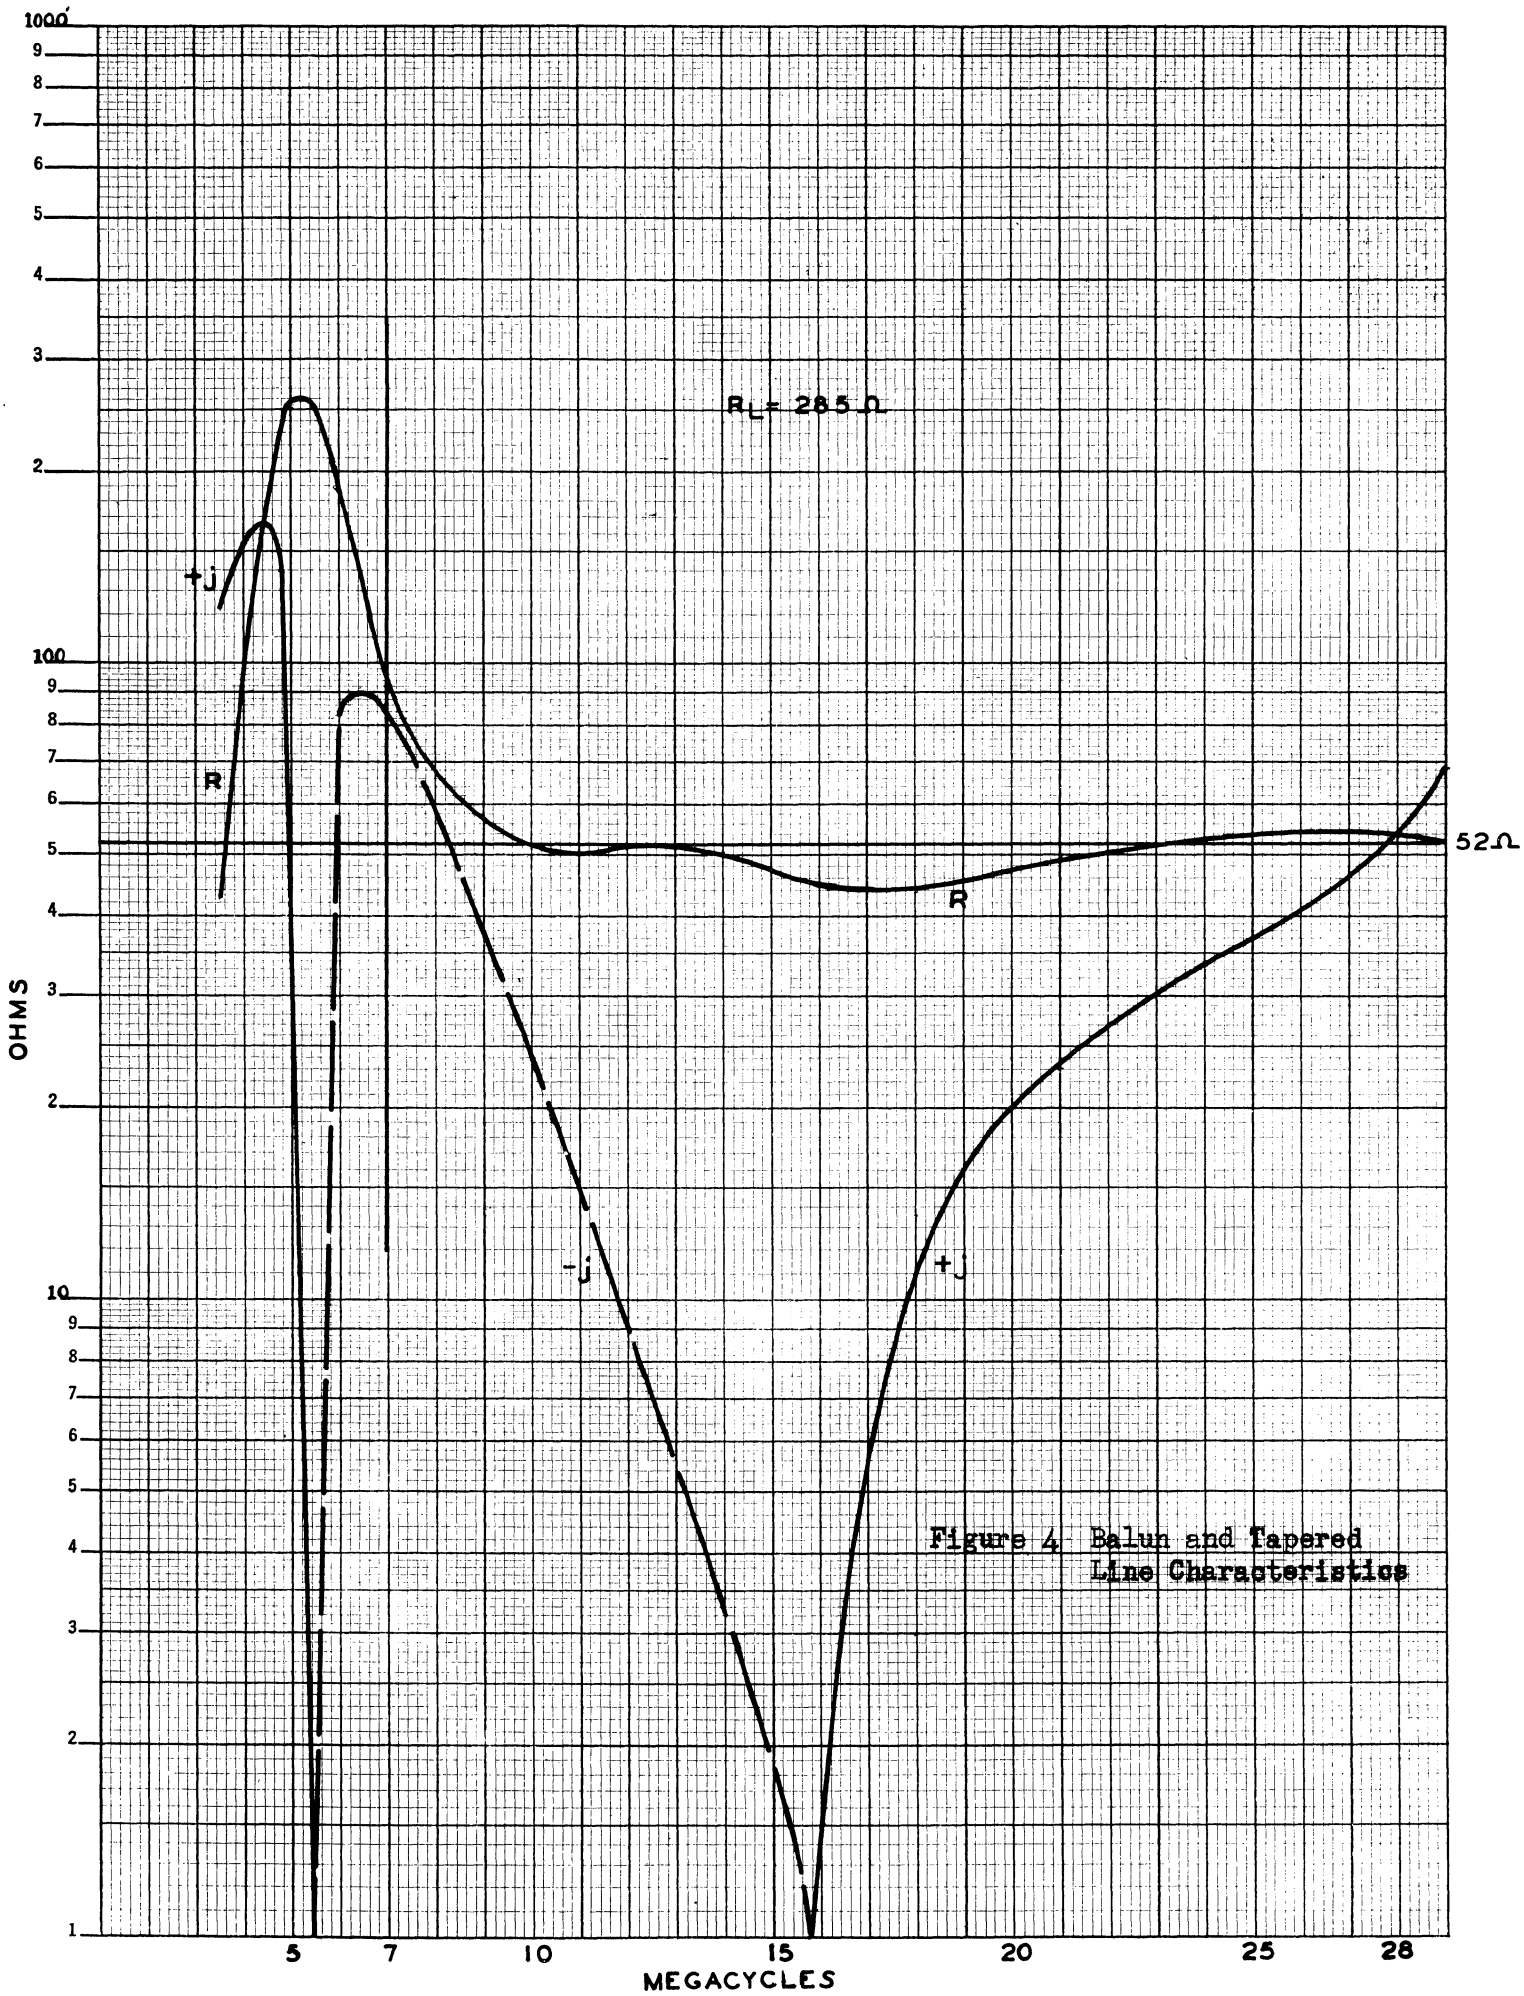

Figure 4. Balun and Tapered Line Characteristics
- Figure 4 Balun and Tapered Line Characteristics
Refer to figure 4 for a chart showing the resistance and reactance characteristics of the system to be described.